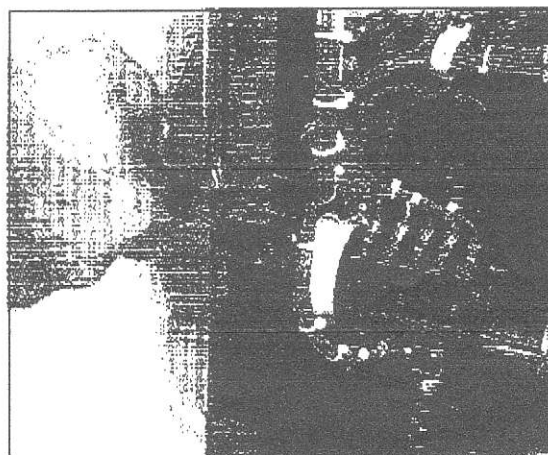

Fig. 56 Disconnect the Link
- 3) Disconnect the link from the main shaft of the operating mechanism by removing the screw (Fig. 56).